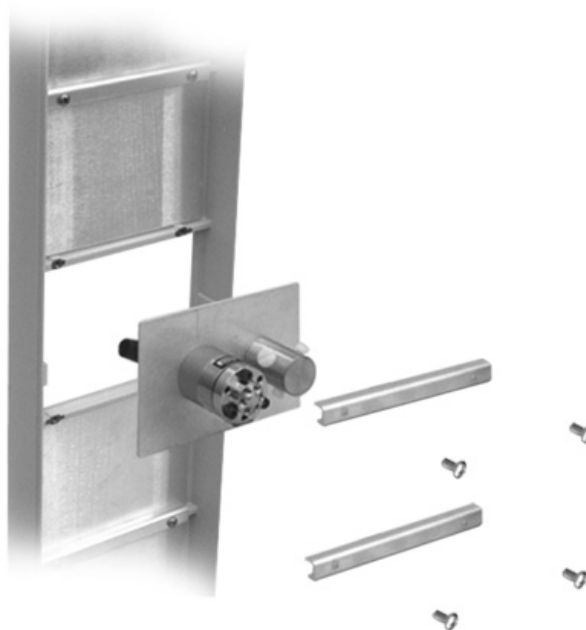

Figure 7. Detail showing the panel-holding brackets and panel assembly (only the inside of the front panel of the compartment is shown for clarity).
Note The holding brackets that secure the front panel plates are accessed from inside the compartment of the CSV, as shown in Figure 7.
2. Remove an unused front panel plate, then secure the new valve/plate assembly to the front panel with the brackets and screws as shown in Figure 7.